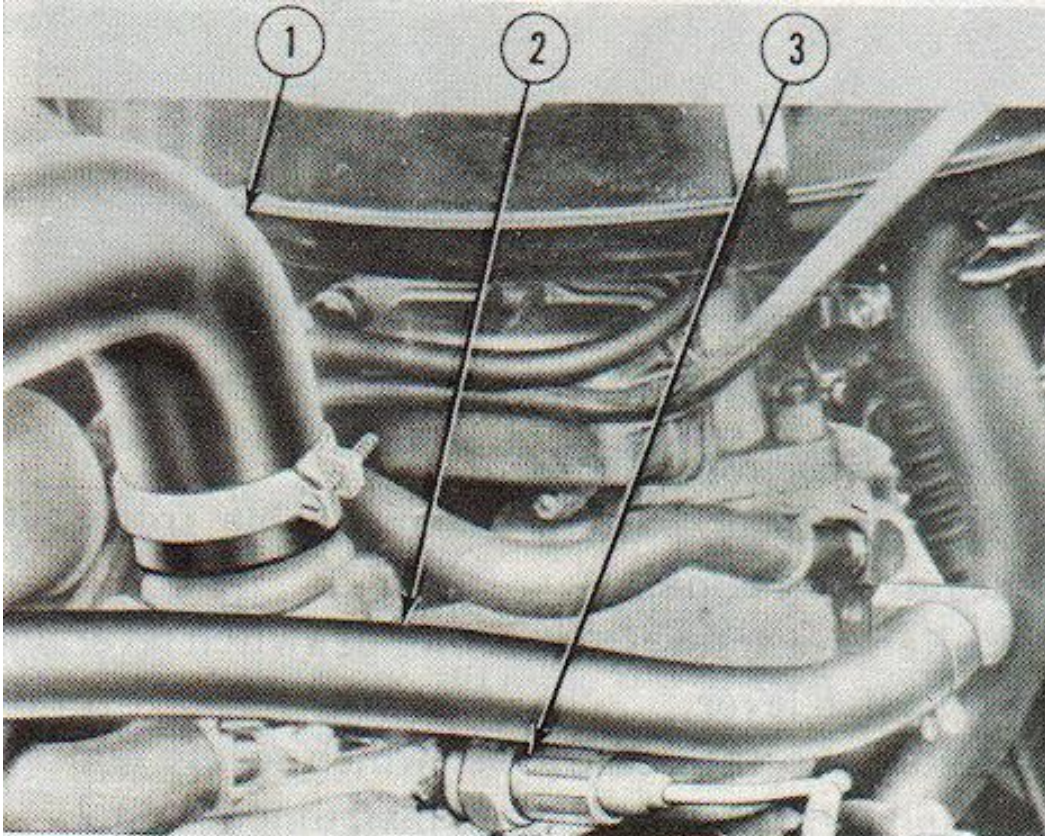

Figure 2-52. Temperature sending unit
- (1) Remove instrument cluster from instrument panel as outlined in (a) above.
- (2) Disengage cable connector from clip on speedometer clamp.
- (3) Remove nut and lock washer from two speedometer clamp studs. Remove cable connector clip from one stud and remove molded electric lead splice from other stud.
- (4) Remove long stud and lock washer securing clamp to speedometer. Remove clamp, then remove speedometer from front of cluster panel.
e. Temperature Indicator Sending Unit. (Fig 2-52)
- (1) Disconnect cable from sending unit terminal.
- (2) Unscrew and remove sending unit from the forward Section of the intake manifold.
f. Oil Pressure Sending Unit. (Fig 2-52)
- (1) Disconnect cable from terminal of sending unit.
- (2) Unscrew sending unit from fitting on right rear of engine cylinder block.